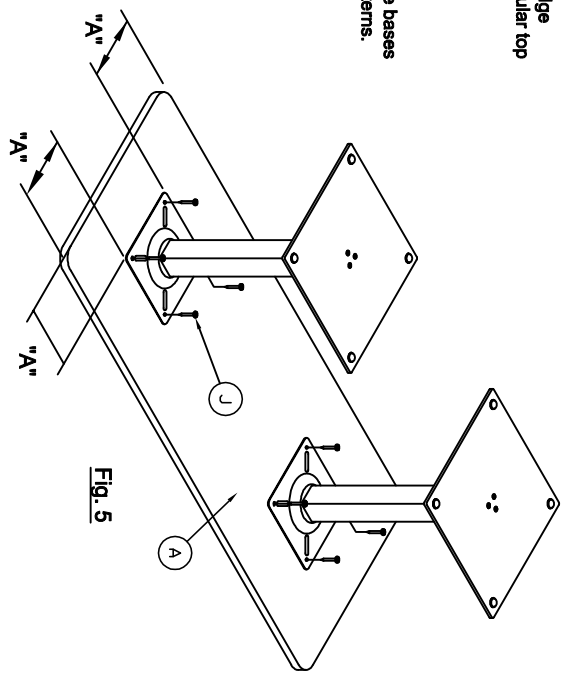

Fig. 5
1. Place Top (A) face down on a clean flat surface. Center Base Assemblies on Top. Dimension "A" to be equal and is determined by centering the base on the width of the top. Dimension "A" to be equal on 3 sides. Attach Base using Screw (J), 4 places per base as shown in Fig. 5.